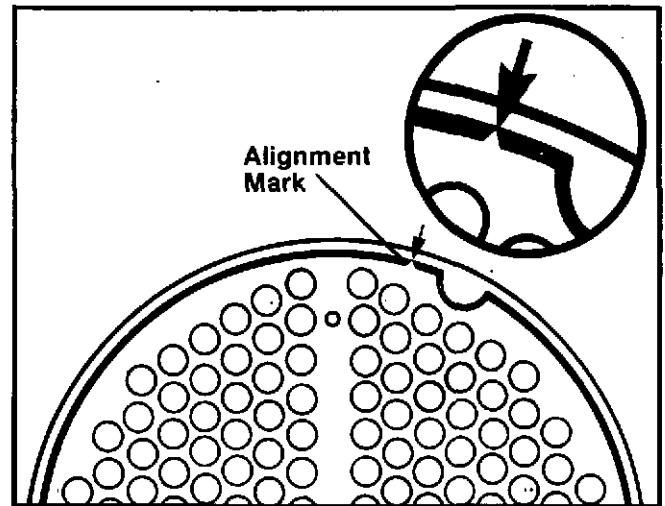

Fig. 7-24. Index Marks On The Element.
- a. Some of the Part No. 208149 elements have two index marks. They can have an "O" on the tube end plate and a notch cut into the inside diameter of the rim, Fig. 7-24. Use the notch to align the element in the housing.